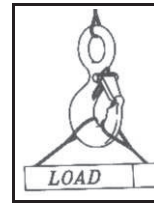

Figure 3
- When placing two (2) sling legs in hook, make sure the angle between the legs is less than 90° and if the hook or load is tilted, nothing bears against the bottom of this latch. (See Figure 3 & 4.)